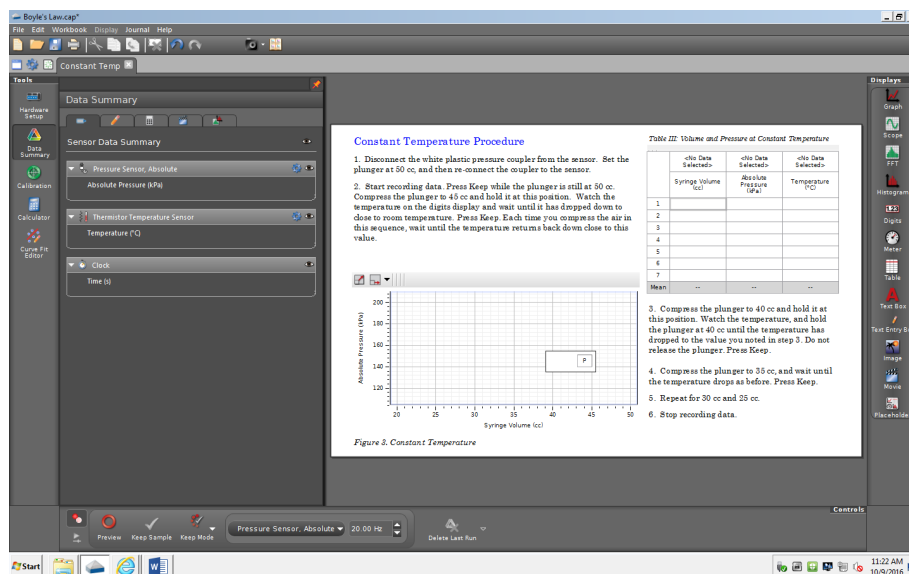

Fig. 3. Screenshot of Boyle's law lab
4. Choose Data Summary if not chosen yet; the screen should be like fig. 3.